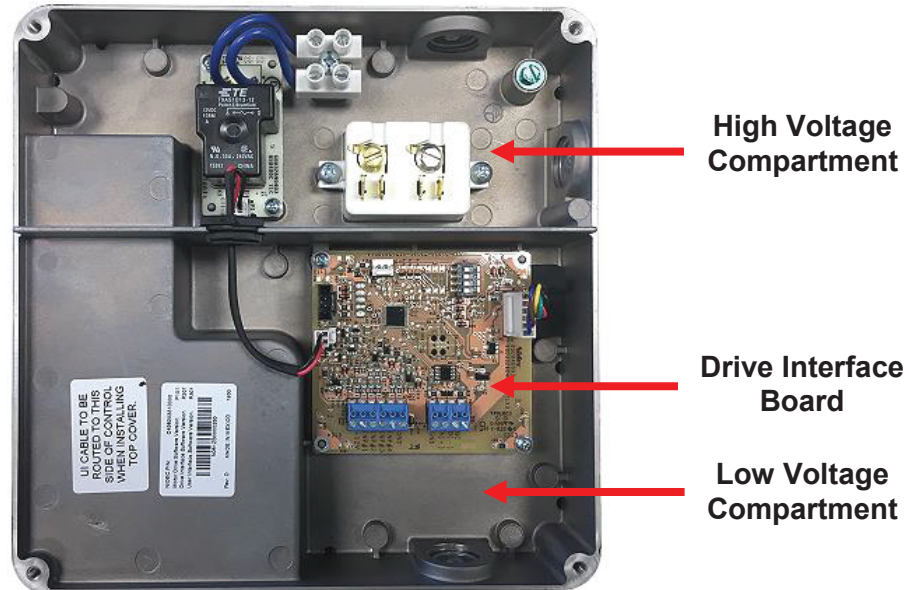

Figure 1 – High and Low Voltage Compartments
1. Remove the four (4) slotted head hex washer screws securing the User Interface Cover to the wiring compartments (Figure 1). Set the cover aside.
Input power and control signals are via conduit connections. There are two compartments: See Figure 1 on **page 8**.